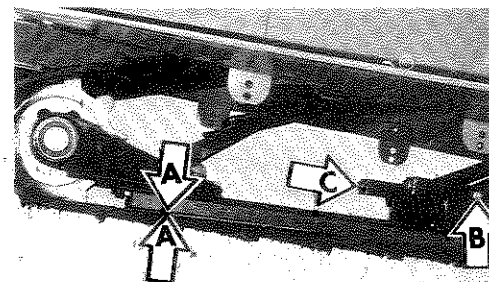

Fig. 11
If the track is in correct tension, the slide bars Fig. 11 will be flat from the rear to the start of the curved section at the front. This can be checked by laying a straight edge on top on the slide bar.
The track should sag below the rear of the slide bars by  $\frac{1}{4}$ ". Fig. 11 (A).
- a) Loosen nuts about  $\frac{3}{4}$  turn Fig. 11 (B) one on each side.
b) Turn screws Fig. 11 (C) equally each side.
- c) Tighten nut Fig. 11 (B).
- a) Loosen nut about  $\frac{3}{4}$  turn Fig. 11 (B).
b) Turn screw Fig. 11 (C) clockwise until measurements are equalised.
c) Tighten nut Fig. 11 (B).